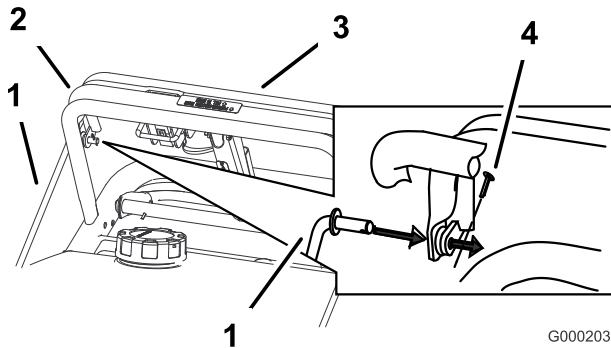

Figure 9
1. Install the control rods into the upper control bar and the blade control bail. Secure the control rods with 2 cotter pins (Figure 9).